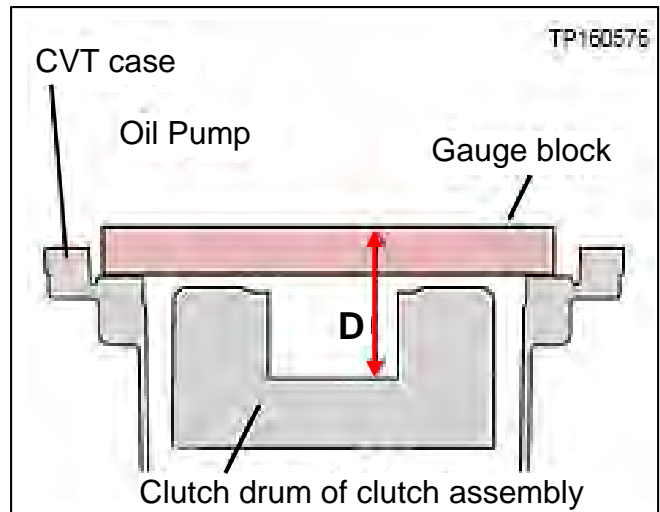

Figure 111
91. Calculate the average clutch assembly bore depth (**D**) (Figure 111) as follows: